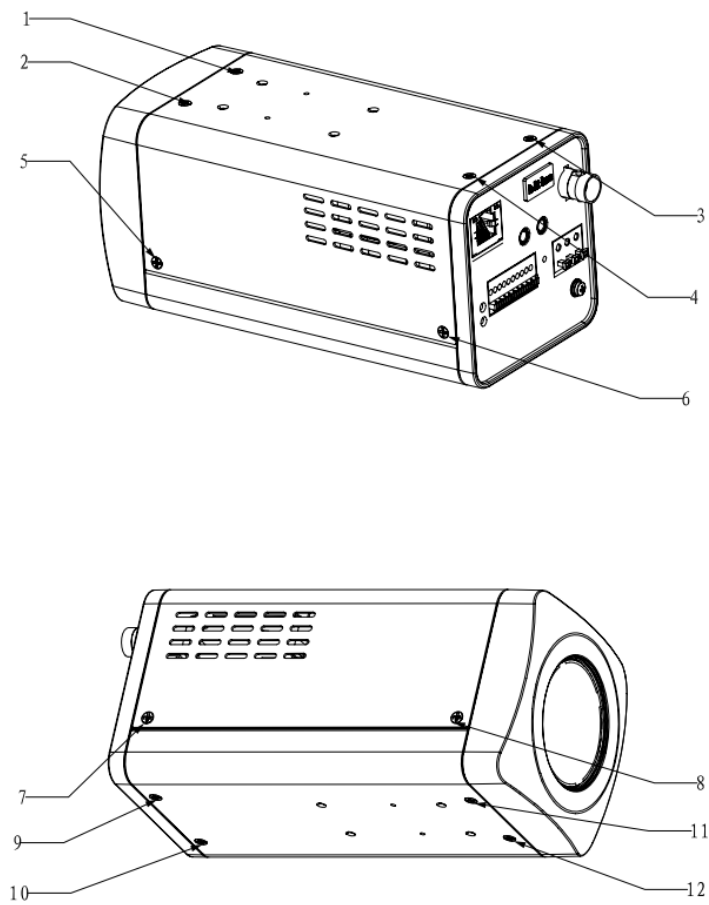

Figure 1-8
- a) Refer to Figure 1-8 to remove the screws.